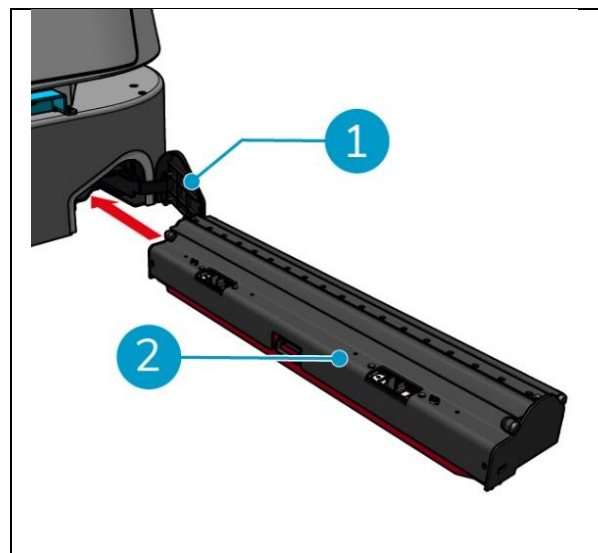

Figure 34
9. Replace the roller brush and squeegee holder (Figure 34, pos. 2) in the compartment, along the top side rail.
10. Close the lid of the roller brush and squeegee holder compartment (Figure 34, pos. 1).